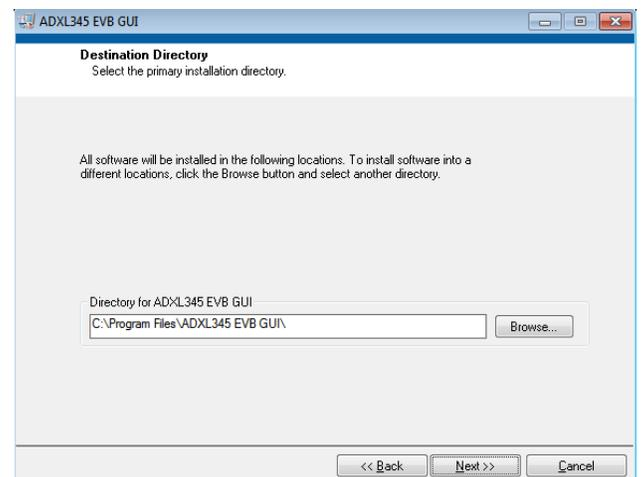

Figure 11. ADXL345 EVB GUI Destination Directory Selection
1. Select the destination directory. The installer autopopulates the names of the directories in which to store the software GUI and required National Instruments products (see Figure 11). You can change these directories; however, most installations can proceed with the default values.